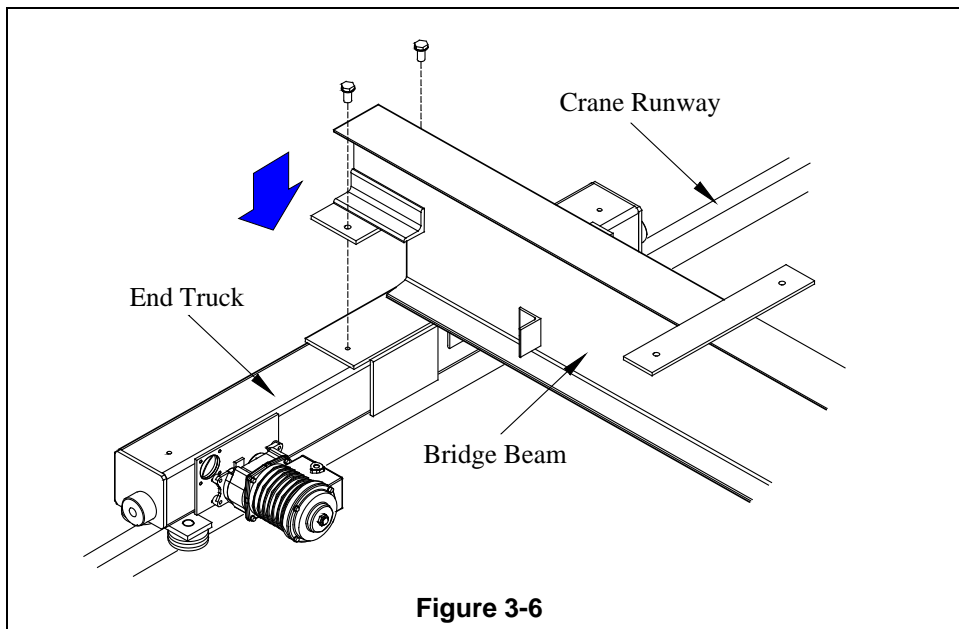

**Figure 3-5**
- 3.1.7 Install braces on the crane bridge and end trucks. Refer to Figure 3-5. Note: Figure 3-5 depicts a crane with two braces per end truck. Manual or Push crane systems require only one brace per end truck.